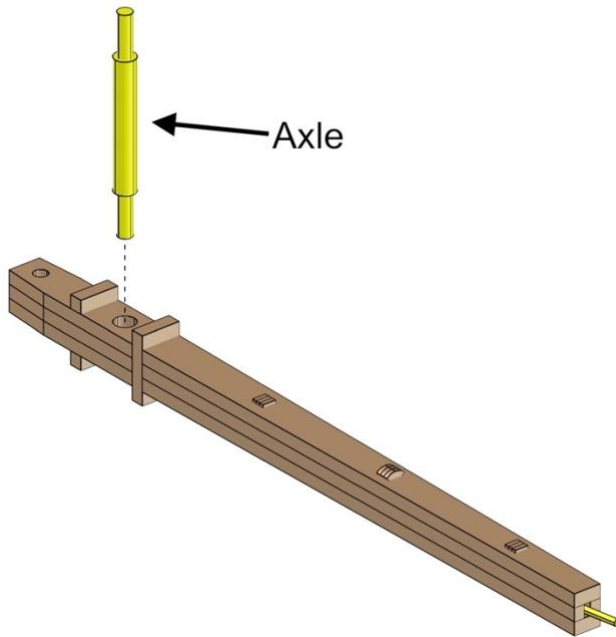

Fig. 60
- Align parts exactly as shown in *Fig. 60*.